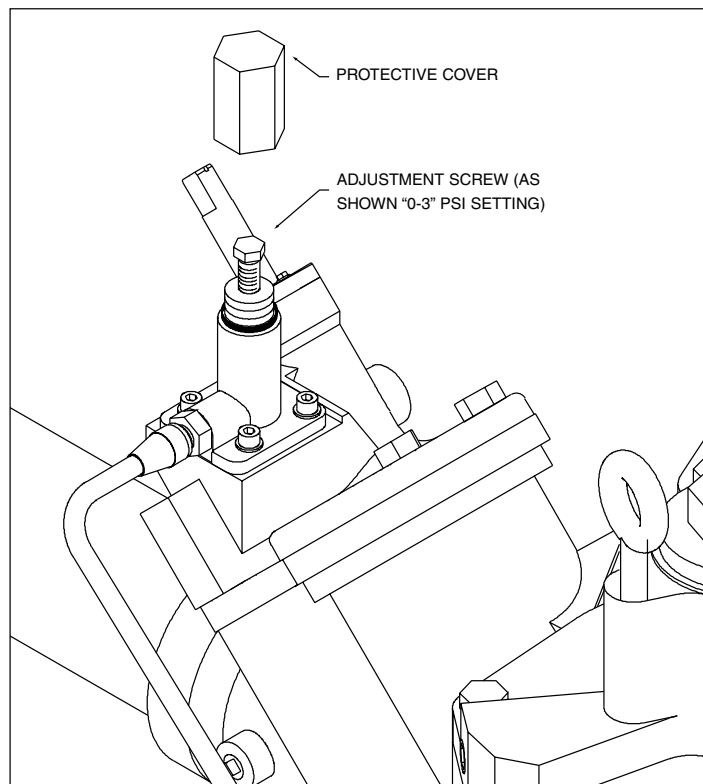

FIGURE 20
- b. Turn the Pressurstat adjustment screw counter clockwise until the screw protrudes 3/4", this will relieve the line pressure to "0" psi (see Figure 20).
ADJUSTING THE PRESSURSTAT LINE RELIEF PRESSURE, (THE LINE PRESSURE AFTER THE PUMP STOPS). REFERENCE FIGURE 20.